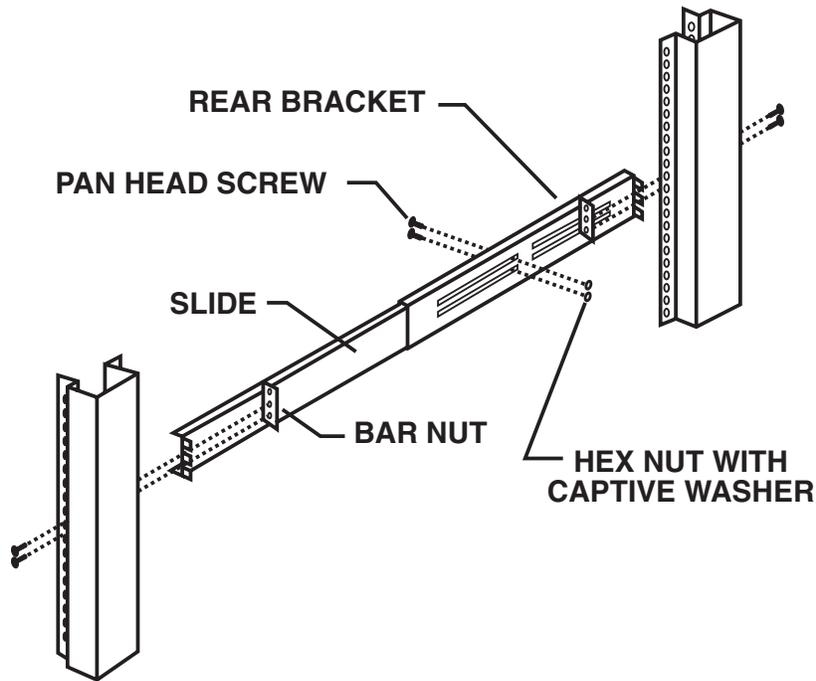

Figure 3-16. Attaching the Slide to the Rear Bracket.
**STEP 1:** Install the Rear Brackets to the Slides (see Figure 3-16).